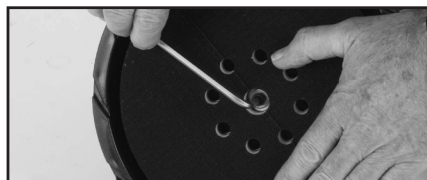

Fig. 11
- Holding the Backing Pad with the palm of one hand, loosen the socket headed screw using the supplied 5mm Hex Key with the other hand. **(Fig. 11)**